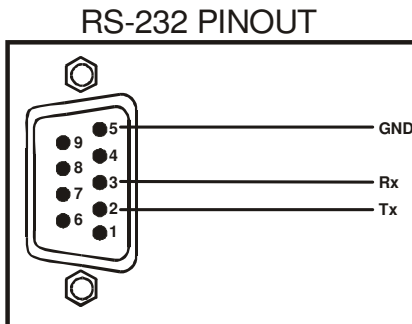

Figure 20: RS-232 PINOUT Connection
1. Connect the PC to the AUDIO PROG. terminal block connector, as defined in Figure 20 and Table 19: